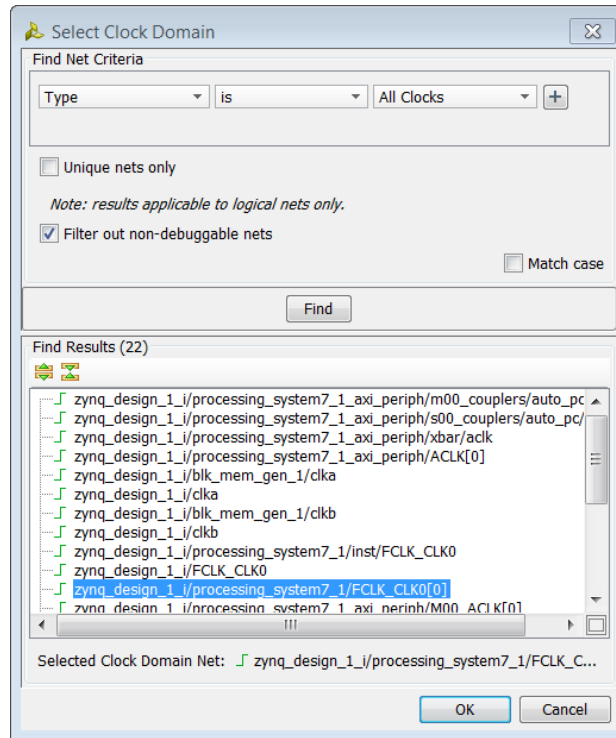

Figure 35: Select Clock Domain Option
- In the Select Clock Domain window, select the `zynq_design_1_i/processing_system7_1/FCLK_CLK0[0]` net as the clock domain, and click **OK** (Figure 35).